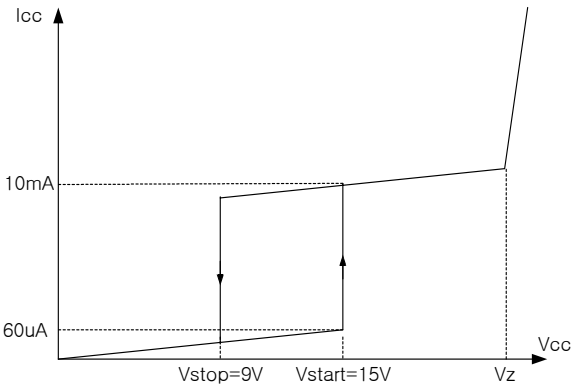

Figure 1. Relation between supply current and voltage
1. Startup : To guarantee stable operation of the control IC, Vcc has under voltage lockout (UVLO) with 6V hysteresis. Figure 1 shows the relation between the supply current (Icc) and the supply voltage (Vcc). Before Vcc reaches 15V, the start-up current is 60µA, which is usually provided by the DC link through start-up resistor. When Vcc reaches 15V, the control IC begins operation and the operating current increases to 10mA as shown. Once the control IC starts operation, it continues its normal operation unless Vcc goes below the stop voltage of 9V.